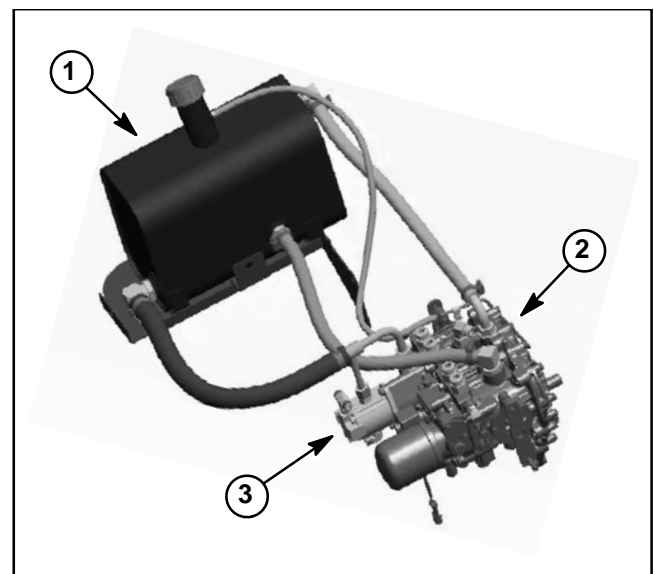

Figure 47
6. Label all hydraulic hoses and fittings for assembly purposes. Remove hydraulic hoses from fittings on hydraulic tank (Fig. 47). Drain hoses into a suitable container.
8. Remove four (4) flange head screws that secure hydraulic tank to frame.
2. Position hydraulic tank to machine. Secure tank to frame with four (4) flange head screws.
4. Using labels placed during removal, attach hydraulic hoses to fittings on hydraulic tank (Fig. 47) (see Hydraulic Hose and Tube Installation in the General Information section of this chapter).